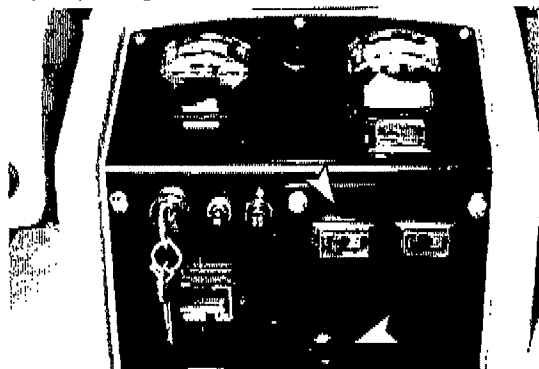

FIG. 25
2. Turn on ES™ switch. During operation the ES™ pump will automatically start recycling when ES™ pump on light turns on (Figure 25).